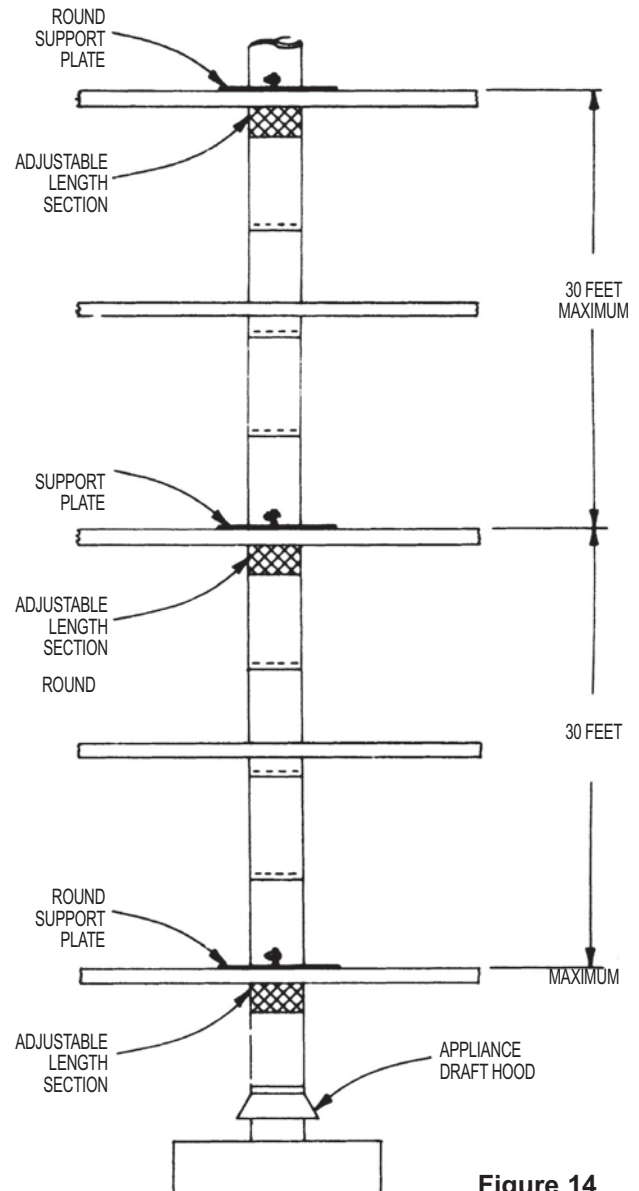

Figure 14
4. Mounting holes are provided around the perimeter of the Round Support Plate. Use appropriate fasteners to secure the Support Plate halves to the opening between floors. (Round Support Plates should be attached to the TOP of the opening only. See **Figure 14**.)
5. For installations with multiple supports, an Adjustable Length Section of Type B Gas Vent should be installed between each pair of locations where a support is used. See **Figure 14**. This allows the location of the pipe recess to be in the proper position at each opening where a support is to be used. The Adjustable Length Section also provides relief for linear thermal expansion. The Adjustable Length Section should be positioned directly under the Vent Pipe Section that is being supported.